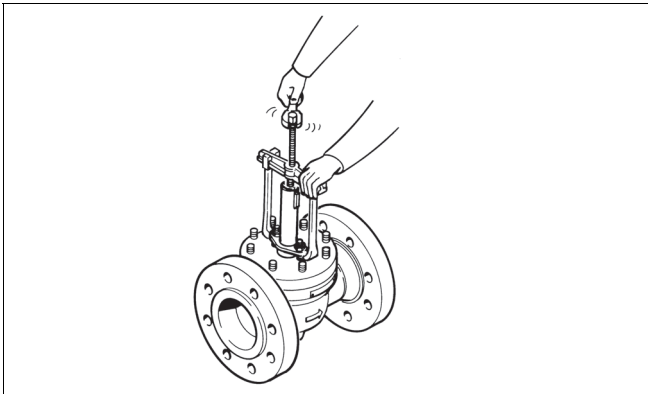

Fig. 10 Detaching the bonnet
- Remove the key (10). Check that there are no burrs on the edges of the key slot.
- Loosen the gland packing by unscrewing the nuts (18).
- Remove the hexagon nuts (16) on the bonnet.
- Lift the bonnet. You may use an extractor as help, see Fig. 10.